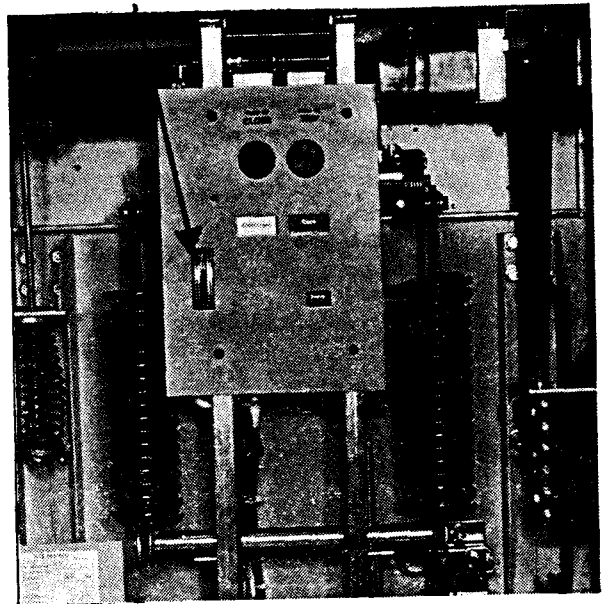

Figure 2 -- Operator Control Panel
Refer to Figure 2.
1. Insert the manual spring charging lever into the hand charging socket as shown in Figure 2. Operate the lever up and down until the spring charge indicator flag shows "CHARGED".